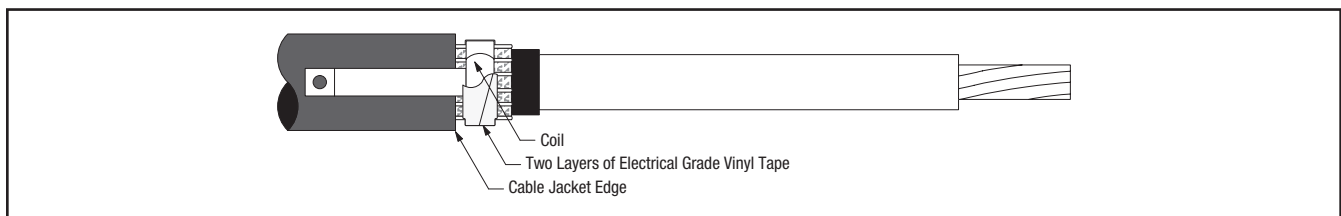

Figure 11
9.3 Hold coil in place with thumb. Pull coil around the cable allowing it to unwrap and rewrap around the shielding and itself (Figure 11).
9.4 Wrap two highly stretched layers of electrical grade vinyl tape around the coil (Figure 11). DO NOT tape onto the cable jacket.